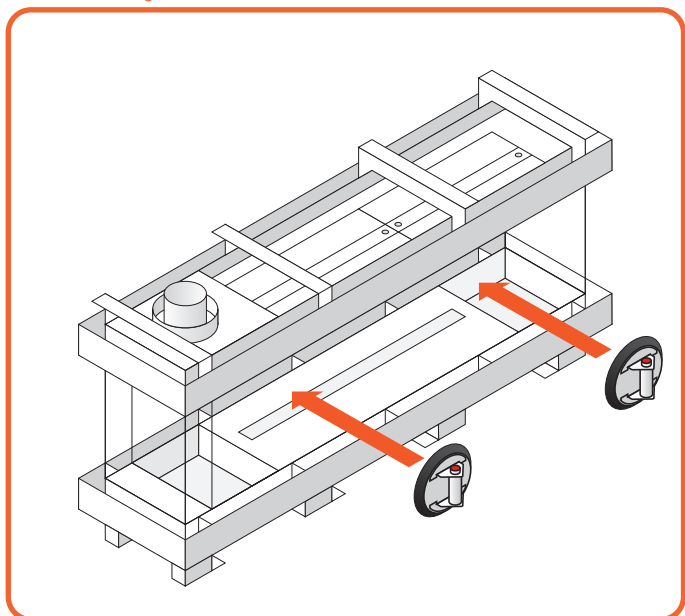

Figure 9.17 | Put on the suction cups
- Place the suction cups on the glass and ensure that it is properly sucked in so that the window cannot come loose (Figure 9.17).